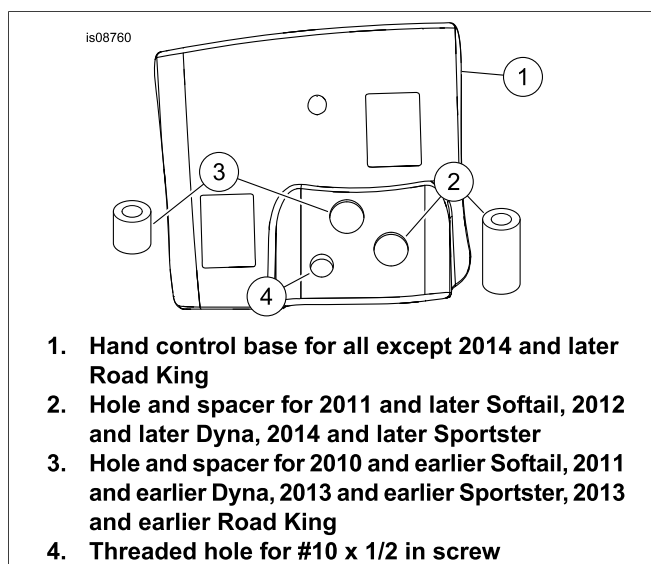

Figure 3. Hand-Control Base and Spacers
4. See Figure 3. Align the spacer selected earlier with the correct hole (2 or 3).